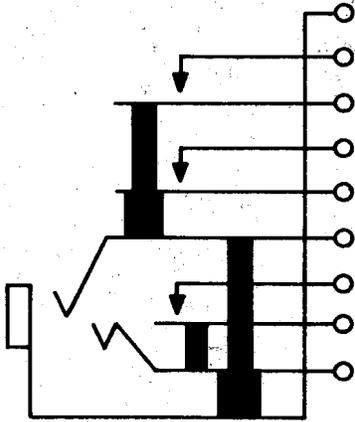

Fig. 9—291A Jack
**2.09 291A:** This single-mounted jack (Fig. 9) is used with 150, 213, and 310 plugs. This jack is heavily insulated and intended to be mounted with the springs in a vertical plane.